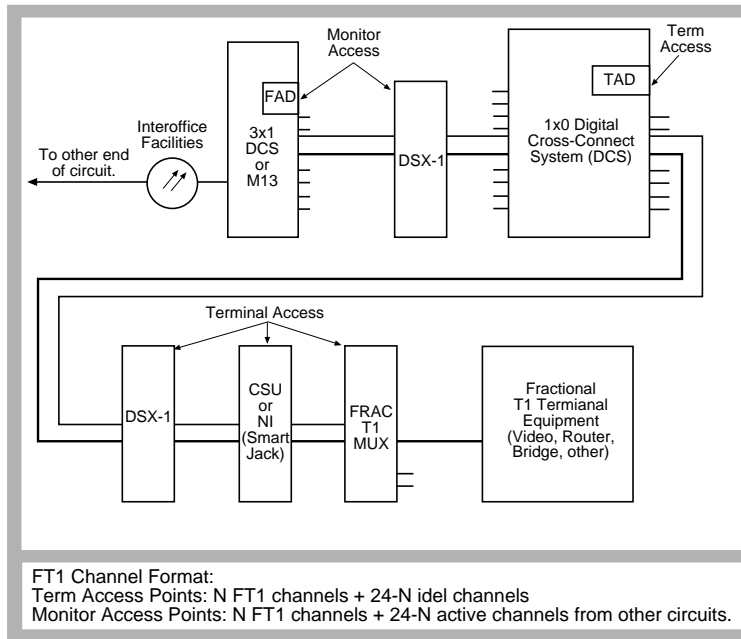

Figure 181 Fractional T1 Circuit
A fractional T1 circuit typically starts out at the customer premises at a fractional T1 CSU. Refer to Figure 181. The purpose of this CSU is to convert the signal into a standard T1 signal suitable for transmission on the telephone company network. The CSU may also multiplex other fractional signals into an aggregate fractional signal within the T1.
The function of the CSU in the fractional T1 circuit shown in Figure 181 has already been covered. Other elements serve different functions. For instance, the 1x0 DCS (Digital Cross-connect System) is used to cross-connect the incoming fractional T1 line onto the desired transport line. The 1x0 DCS allows many fractional T1 circuits to be combined with other channelized circuits onto more densely-packed T1s. The idle channels are simply discarded as they pass into the DCS. This reduces costs by providing highest utilization (fill) on the T1 paths in the long-haul portion of the network.
4. Loop up the circuit toward the near end CSU. A standard CSU loopback code may be used from the access point illustrated in Figure 181, because the SunSet T10 has access to the entire T1 terminating at the CSU.